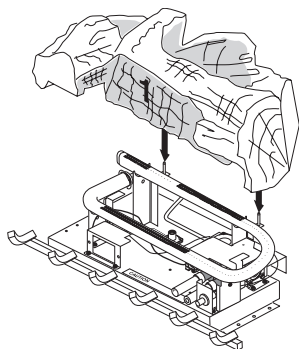

Figure 27 - Rear Log Placement (Remote-Ready Models)
1. Place rear/middle log over burner. Log will fit on two pins on rear bracket (see Figure 27, page 19).